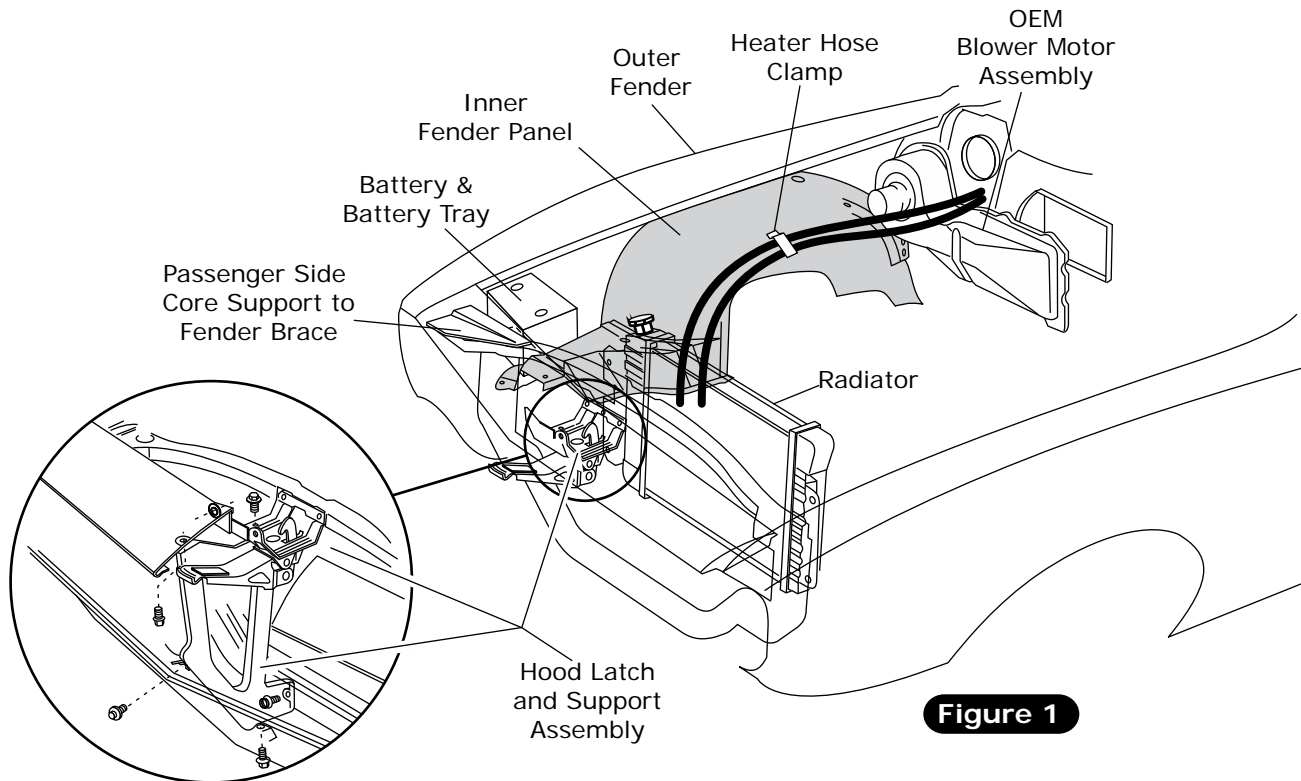

Figure 1
1. Remove battery and battery tray (retain) (See Figure 1, below).
4. Remove heater blower motor assembly (discard). **NOTE: To remove the heater blower motor assembly (under hood) and the air distribution system (under dash), the factory manual indicates doing the following: Remove right lower rocker molding. Remove fender attaching bolts. Remove skirt to fender and skirt to reinforcement screws. Pull out on lower portion of fender, moving the skirt away from the fender flange and firewall. Block the skirt with a 2 x 4 block of wood. To avoid damage to paint and sheet metal, and for ease of removal and replacement of components, Vintage Air suggests that the right fender be removed and the inner panel be lowered (See Figure 1, below).**
5. Remove OEM heater hoses (discard) (See Figure 1, below).
6. Remove OEM heater wiring/vacuum harness molded grommet (See Figure 1, below).